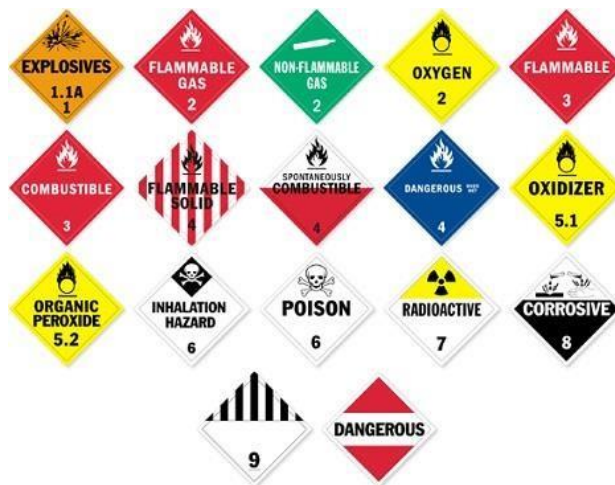

Figure 3: Transportation Placards
- The hazard class (**Figure 3**, and per GHS guidance **Figure 2**)